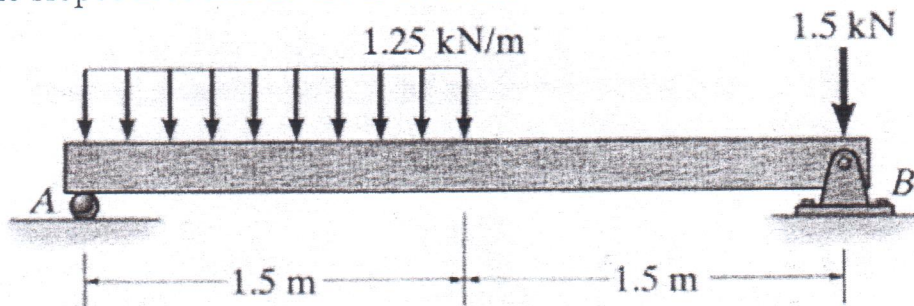

Figure 9
- (9) For the beam shown in **Figure 9** determine the displacement at $X = 1.5$ m and the slopes at A and B . EI is constant.